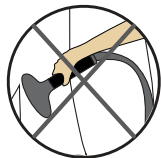

fig.23
- Never try to steam the garment in a horizontal position (*fig.23*)